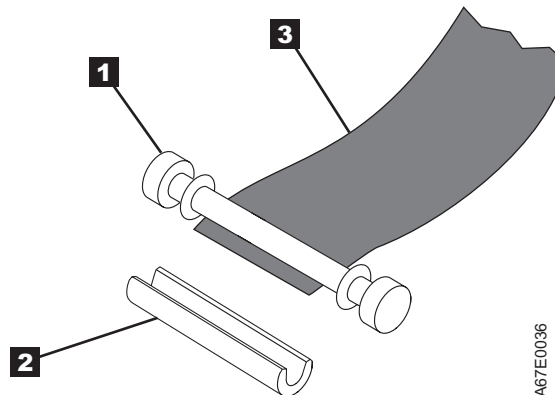

Figure 24. Removing the C-clip from the leader pin. Use your fingers to push the C-clip from the leader pin.
5. On the leader pin (**1** in Figure 24), locate the open side of the C-clip **2**. The C-clip is a small black part that secures the tape **3** to the pin.